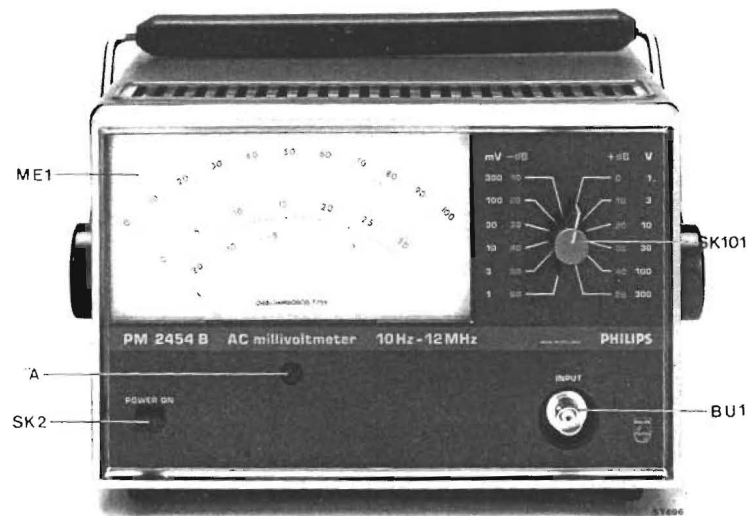

Fig. 4. Front view
- If necessary correct the setting by means of plastic screw "A", fig. 4.